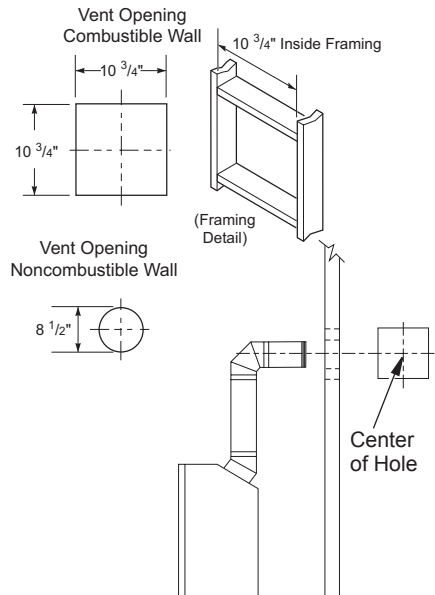
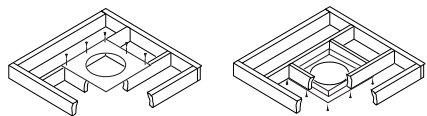

Figure 9 - Vent Opening Requirements
Figure 20 - Installing Firestop
5. Carefully determine the location where the vent pipe assembly will penetrate the outside wall. The center of the hole should line up with the center-line of the horizontal vent pipe. Mark the wall for a 10 3/4" x 10 3/4" square hole. Cut and frame the square hole in the exterior wall where the vent will be terminated. If the wall being penetrated is constructed of noncombustible material, such as masonry block or concrete, a 8 1/2" hole with zero clearance is acceptable (see Figure 9).
1. Cut a 10 3/4" square hole in the ceiling using the locating hole as a center point. The opening should be framed to 10 3/4" x 10 3/4" inside dimensions, as shown in Figure 9 on page 9 using framing lumber the same size as the ceiling joists. If the area above the ceiling is an insulated ceiling or an attic, nail firestop from the top side. This prevents loose insulation from falling into the required clearance space. If the area above the ceiling is a living space, install firestop below the framed hole. The firestop should be installed with no less than three nails per side (see Figure 20).
3. Cut a hole in the roof using the locating hole as a center point. (Cover any exposed open vent pipes before cutting hole in roof.) The 10 3/4" x 10 3/4" hole must be measured on the horizontal; actual length may be larger depending on the pitch of the roof. There must be a 1" clearance from the vent pipe to combustible materials. Frame the opening as shown in Figure 9, page 9.